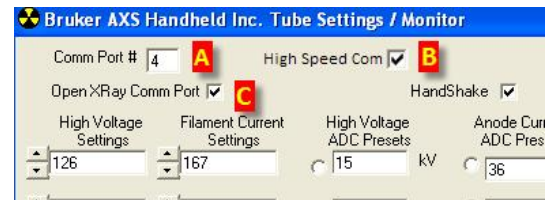

Figure 2
11. **ENTER** the appropriate Comm Port number (Figure 2 **A**).